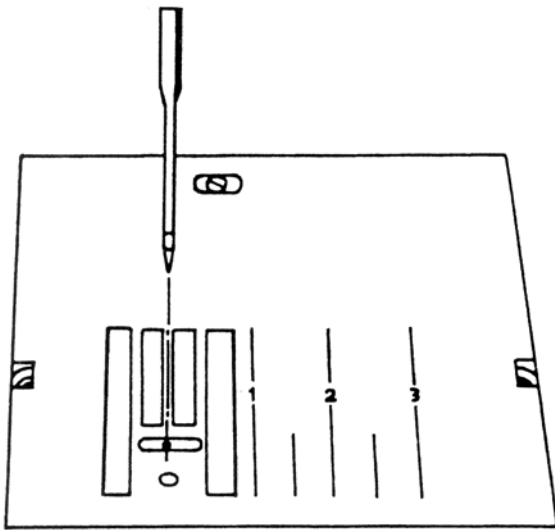

Fig. 26
At the straight stitch setting, the needle must be in the center of the needle hole (fig. 26).
- Carry out a visual check (fig. 26).
- Push the complete stepping motor 46 to the left or to the right until the needle is centered (fig. 26).